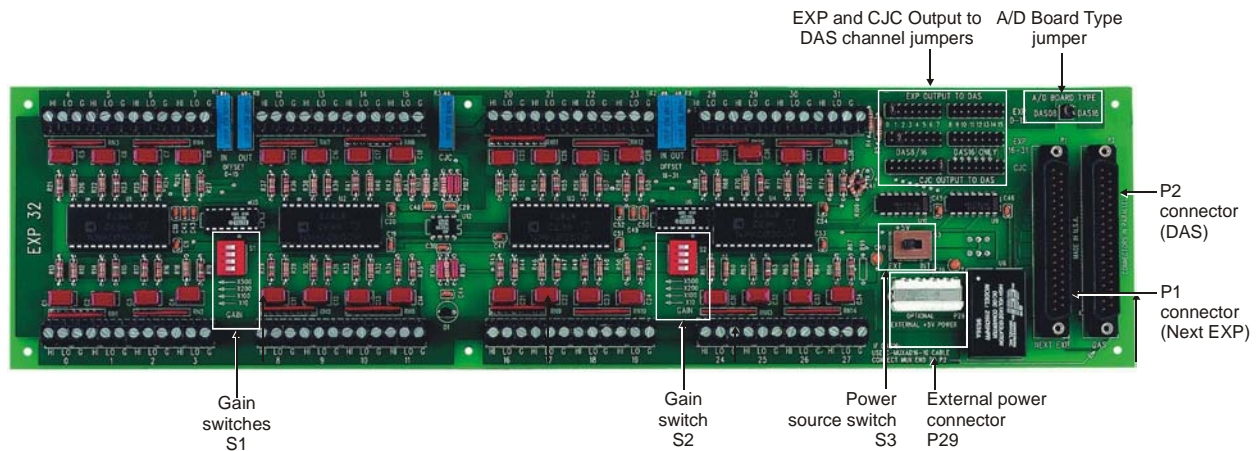

Figure 3. Switch, jumper, and connector locations
Figure 3 shows the location of the board jumpers, switches, and connectors. The solder bridges are on the under side of the board, and are not shown in the figure.
4. Connect the other end of the power cord to the connector labeled "**OPTIONAL EXTERNAL +5V POWER**" (**P15**) on the CIO-EXP32. This end is keyed also. Refer to Figure 3 for the location of this connector.